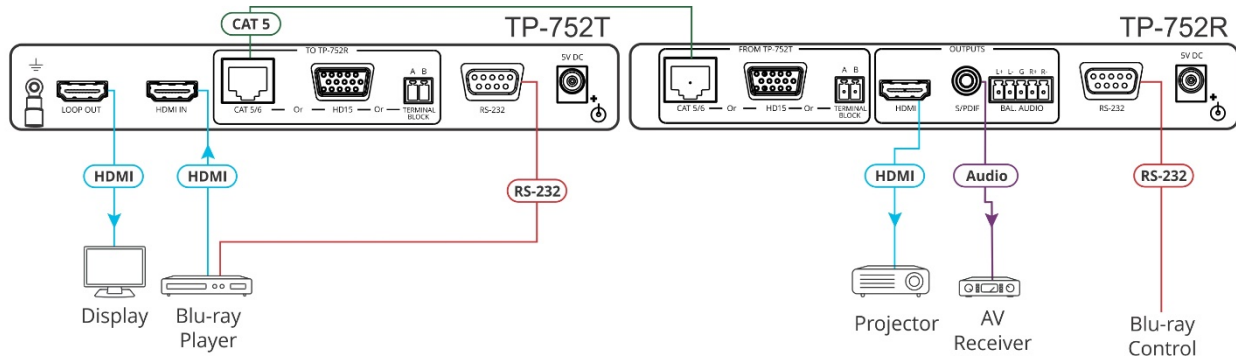

Figure 3: Connecting the Transmitter to the Receiver
To connect the TP-752T and TP-752R as illustrated in Figure 3:
- Connect the LOOP OUT HDMI connector (5) to an HDMI acceptor (for example, a display)
- Connect the HDMI source (for example, a Blu-ray player) to the HDMI IN connector (6).
- Connect the RS-232 9-pin D-sub connector (10) to the HDMI source (for example, to control the Blu-ray player).
- Connect the HDMI OUTPUT (19) to an HDMI acceptor (for example, a projector).
- Connect the S/PDIF RCA connector (20) to a digital audio acceptor (for example, an AV receiver).
- Connect the BAL. AUDIO 5-pin terminal block connector (21) to a stereo balanced audio acceptor (not shown in Figure 3).
- Connect the RS-232 9-pin D-sub connector (22) to a controller (to control the Blu-ray player on the transmitter side).
- The CAT 5/6 RJ-45 connector, (7) to (16) via a CAT 5 cable.
- The TERMINAL BLOCK 2-pin terminal block connector, (9) to (18) (not shown in Figure 3).
- The HD15 15-pin HD connector, (8) to (17) (not shown in Figure 3).
4. Set the same baud rate on both devices via the BAUD RATE DIP-switches (2) and (13) (see Setting the Baud Rate on page 9).
5. Connect the power adapters to the TP-752T and TP-752R power connectors ((11) and (23)), and to the mains electricity (not shown in Figure 3).